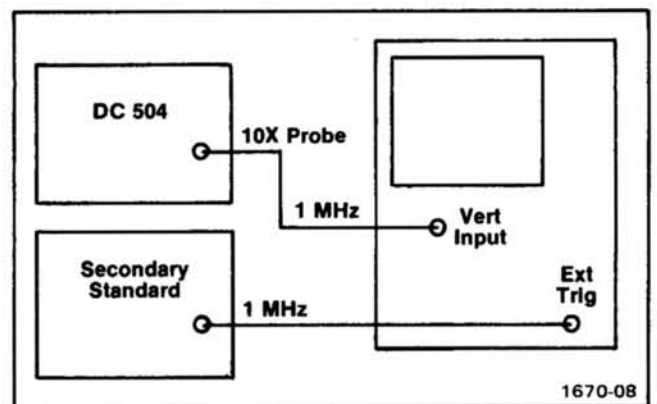

Fig. 3-2. Test setup for Time Base frequency check.
- a. Connect the DC 504 1 MHz (5 MHz for Option 1) time-base reference and the frequency standard to the oscilloscope as shown in Fig. 3-2. Adjust the oscilloscope to display several complete cycles.